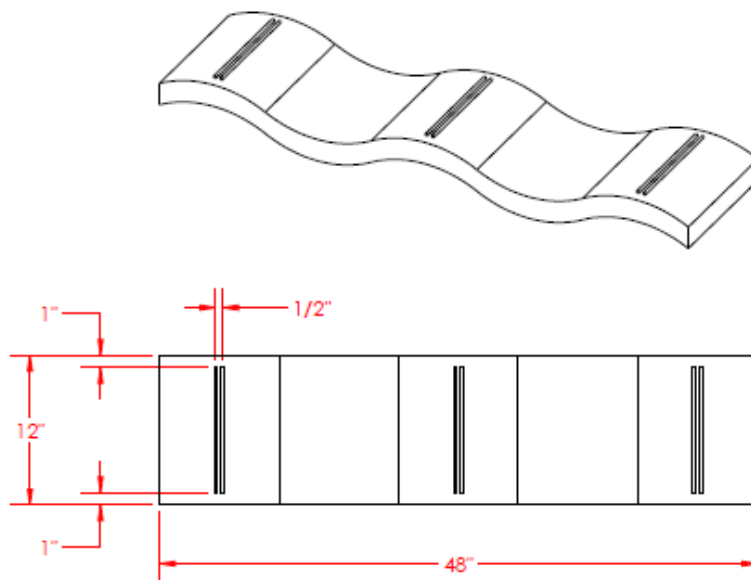

Figure 1: Double Mini Wave Panel
- 7) Using pressure, apply a ¼" bead of adhesive to the double mini wave panel, ½" on center applied at the apex of the 3 waves. Use the diagram as shown in Figure 1 below as a guide. For standard and large wave panels where is typically only one apex, please consult TECHLITE Acoustics engineering department for technical assistance for your specific project requirements.